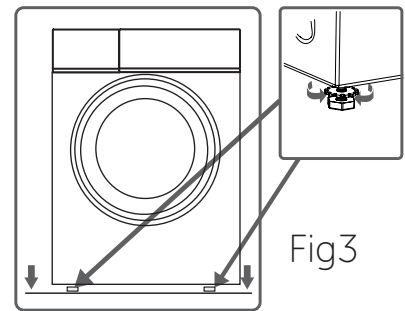

Fig3
**3:**First,loosen the plastic adjustment nut.(Fig 3)